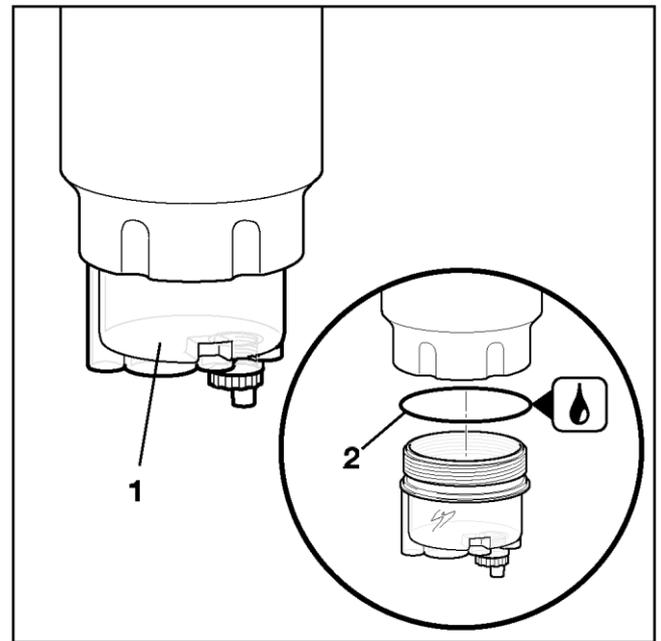

Fig. 5 Changing the water collecting tank
- Disassemble the tank (Pos.1, Fig. 5) using the assembly tools inside the packaging of the new tank.
- Lubricate the seal (Pos.2, Fig. 5) on the new water collecting tank with a few drops of oil.
- If the water collecting tank is to be reused, screw it off (refer to Chapter 5.3) and check for signs of damage. Lubricate the new O-ring (enclosed with the new filter) lightly with a few drops of oil (Pos. 2, Fig. 5).